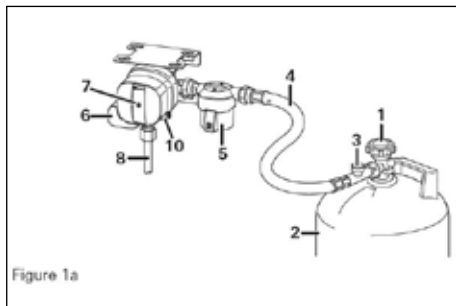

Figure 1a
- Connect the gas cylinder (2) and ensure that the hose connection is in perfect condition.
- Open the cylinder valve (1).
- Firmly press the hose rupture protection (figure 1a, 3) on the high-pressure hose for about 5 seconds.
- If the yellow reset button (7) is not pressed ("not ready for operation" position), reset the crash sensor.